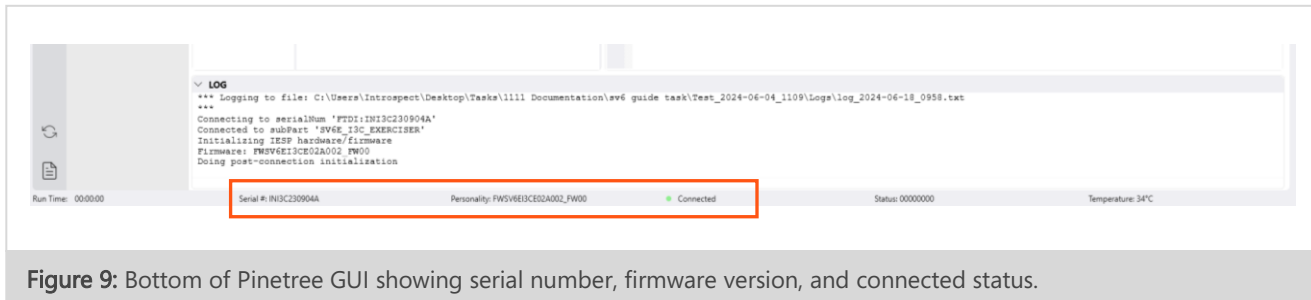

Figure 9: Bottom of Pinetree GUI showing serial number, firmware version, and connected status.
- c) At the very bottom of the GUI, you should be able to verify the connection to the SV6E-X unit by observing the connection status, serial number of the connected unit, and the firmware version on the unit. See Figure 9. Note that the firmware version may differ from what is shown below.